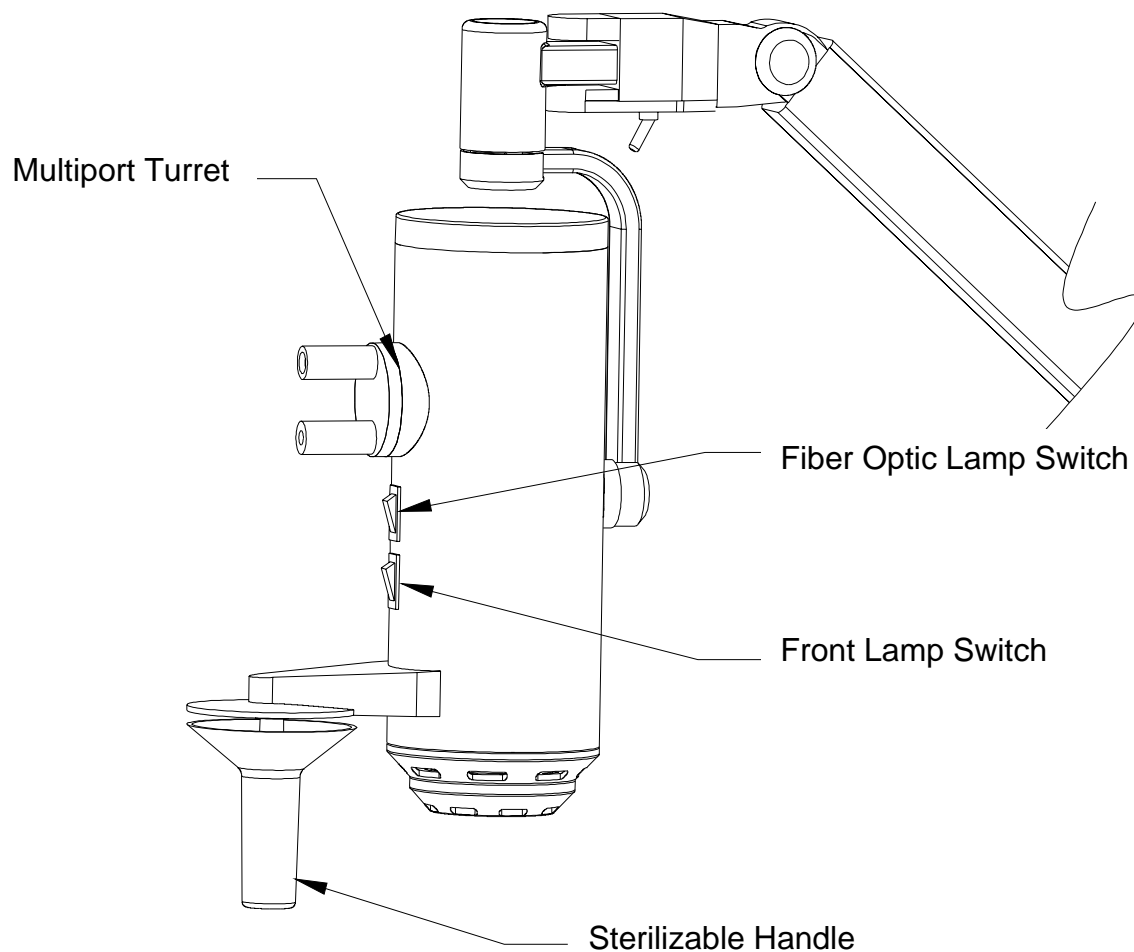

FIGURE 32: Centura Fiber Optic Spotlight Model Operation
- **Fiber Optic Generator:** If your spotlight includes an optional fiber optic generator, the light output port and on/off switched are located as shown in figure 32. The light head has a turret that allows a selection of output ports for a variety of common cable fittings. This multi-port model will accept fiber optic cables with ACMI, OLYMPUS, STORZ, and WOLF plug fittings. To operate the turret, rotate it in either direction to align it with the port opening.